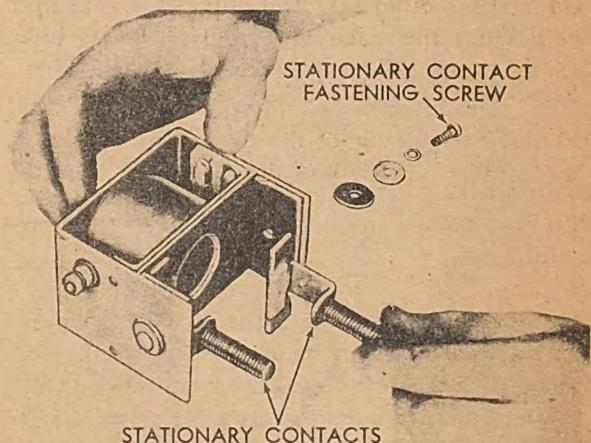

Fig. 235. Removing or Installing Stationary Contacts
(7) If, because of excessive pitting or burning of the contacts, it is found necessary to resurface the faces or install a new contactor, the plunger may be unscrewed from the rod and the contactor removed. The resurfacing should be done on a grinder or with emery cloth held on a file. Exercise care to assure flat surface being maintained on the contact faces. A file may be used to remove slight surface irregularities or burning.
(8) Take out the round head screws on the sides to remove the stationary contacts. (See Figure 235.) These contacts may be resurfaced, if necessary, in the same manner as the movable contacts.
*n. Inspection and Repairs.* (1) Examine all insulators for burning or cracking and provisions made for removal.
*o. Testing Magnetic Switch Coil.* (1) Test the coil for shorts by obtaining the resistance. The value should be within the prescribed limits of  $2.25 \pm .1$  ohms. Before reassembly, inspect the insulation carefully for any signs of overheating or damage.
- (2) Check all insulators for breaks or cracks.
- (3) Inspect and smooth off the contact surfaces.
*p. Reassembly of Magnetic Switch.* (1) Install the stationary contacts and insert the round-headed screws to secure the contacts on the base assembly. Be sure to use insulator washers, guard washers and lockwashers. (See Figure 235.)